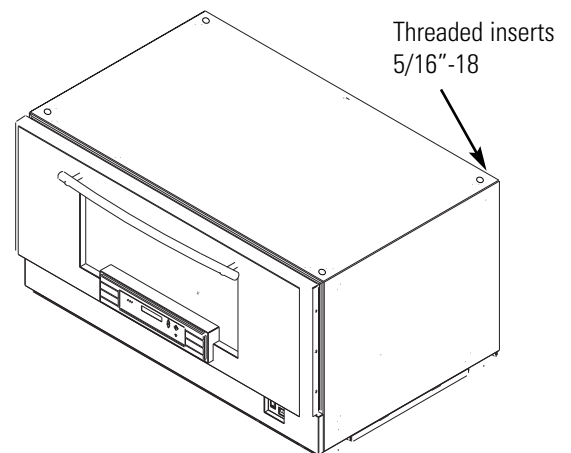
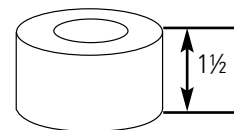

Figure 1-2. Exterior Top of Unit
Figure 1-7. Spacer
Caution Do not lift with forklift or other lifting device near the center of the unit base. Damage to the shaker mechanism mounting may occur. When lifting from the base, position the lifting device as close as possible to the leveling feet. Whenever possible, lift the unit by the four threaded inserts (Figure 1-2). Do not attempt to lift a stack of units by the threaded inserts. The inserts are provided to lift and position only one unit at a time. ▲
2. Place the 1½ inch tall spacers (Figure 1-7) over the threaded inserts in the top four corners of the base unit (Figure 1-2).
3. Using the appropriate lifting device, carefully raise the unit to be stacked. Remove all (4) leveling feet.